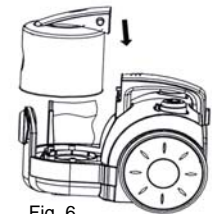

Fig. 6
5. Replace dust bag cover. (Fig. 6)